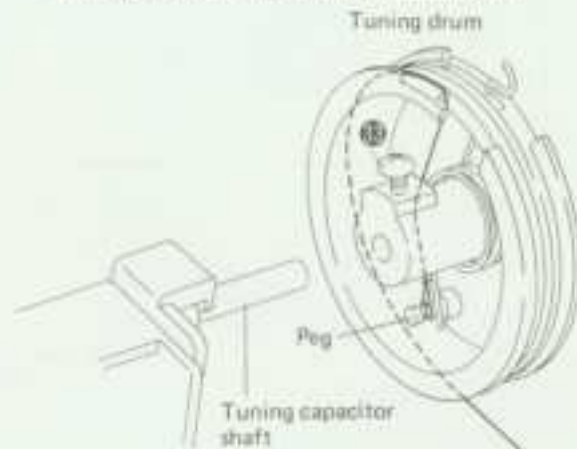
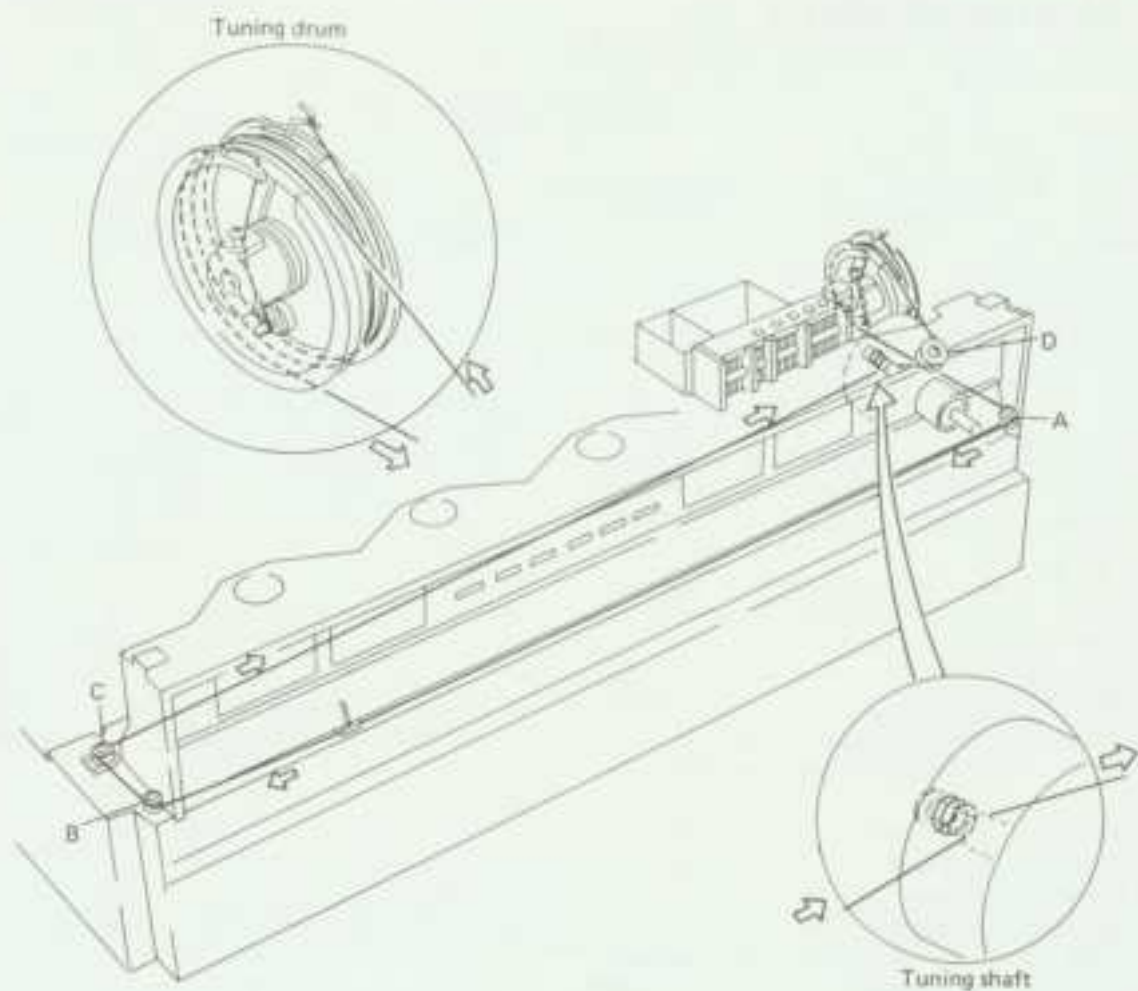

Fig. 14
Fig. 15
3. Loosen screw ⑬, and then remove the tuning drum from the tuning capacitor shaft (Fig. 14).
4. Tie one end of the cord to the peg on the inside of the tuning drum (Fig. 14).
5. With the tuning capacitor blades turned full in, rotate the tuning drum around the variable capacitor shaft so that screw ⑭ is positioned at the apex (i.e. facing straight up).
6. Lead the cord out through the gap in the tuning drum, make half a turn, and then pass the cord over the pulleys A, B, and C in that order. Wind the cord 3 times around the tuning shaft and pass it over pulley D; then make 2 windings around the tuning drum, and finally tie it to the spring, making sure there is sufficient tension in the cord (Figs. 15, 16).